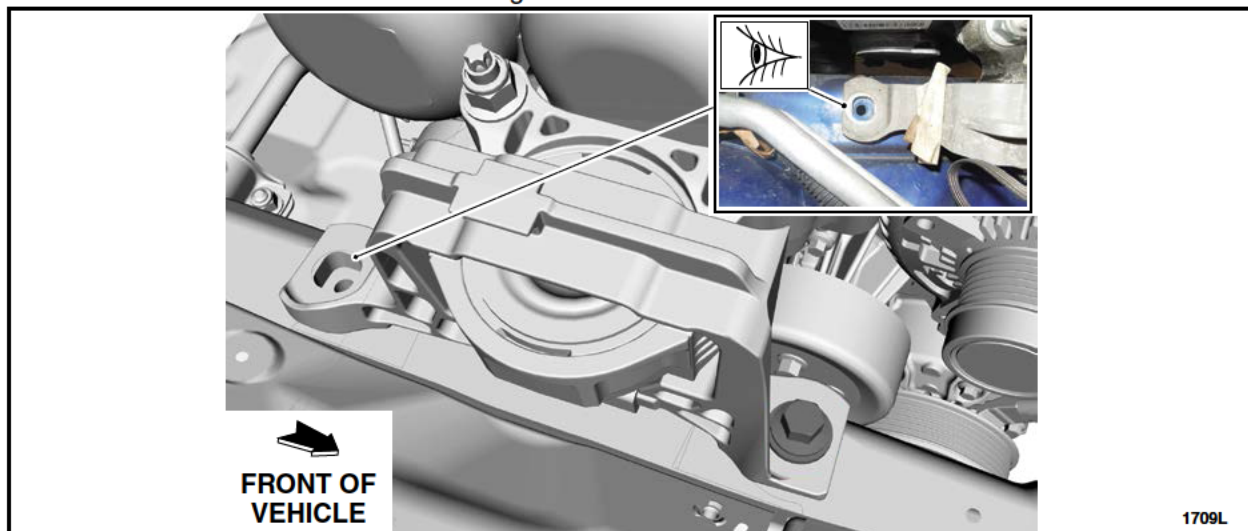

FIGURE A4
- If the hole is not centered, please carry out the powertrain assembly mount neutralizing when instructed in Procedure C. See Figure A4.